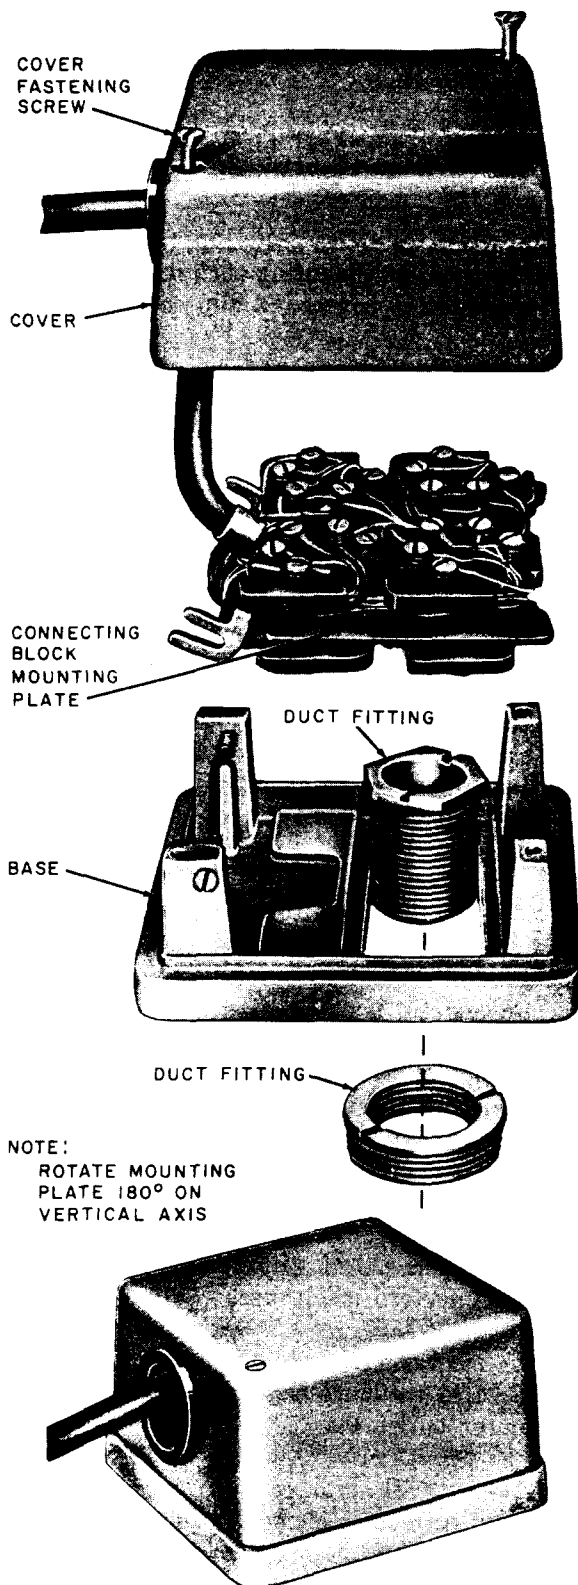

Fig. 4—Nepcoduct 7906-LC4 Outlet
**5.02** The Nepcoduct 7906-LC4 outlet (Fig. 4) consists of a base, hinged mounting plate, and cover and is used to house four 44-type connecting blocks.